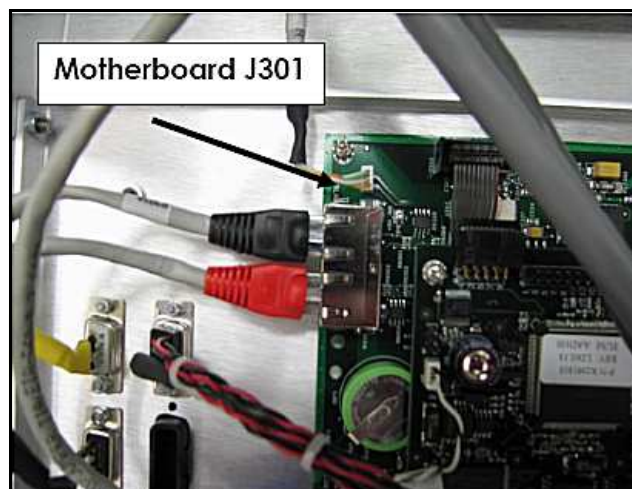

Figure 9: Motherboard Connection
10. Connect the end labeled P301 to the motherboard connector labeled J301 (Figure 9: Motherboard Connection and Figure 9: Motherboard Connection).